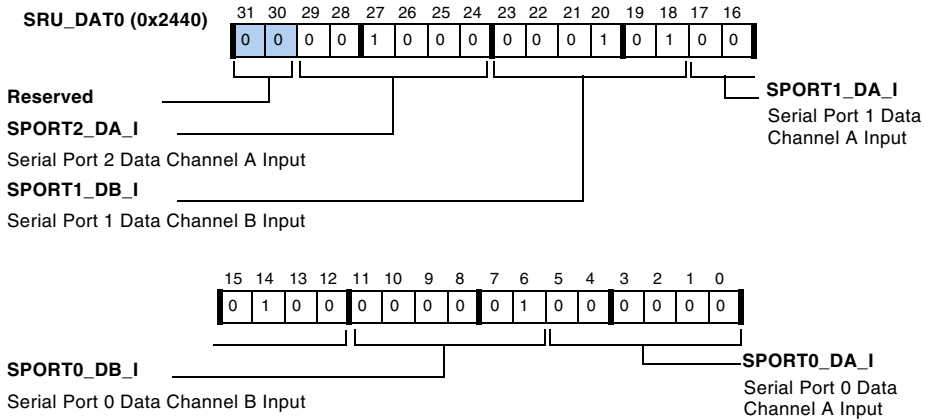

Figure A-38. SRU\_DAT0 Register
- `SRU_DAT0`, described in Figure A-38